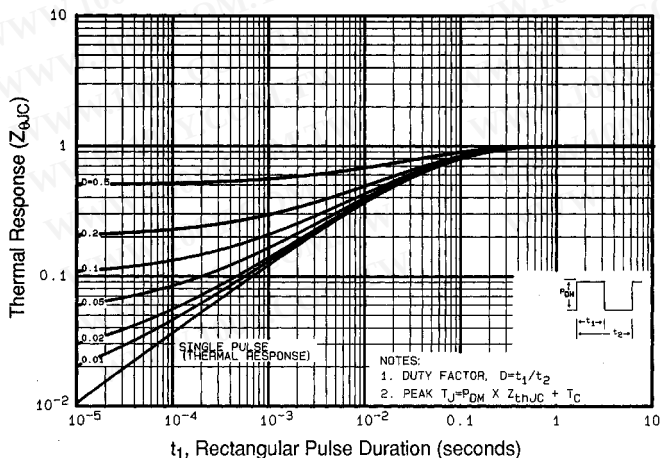

Fig 11. Maximum Effective Transient Thermal Impedance, Junction-to-Case
① Repetitive rating; pulse width limited by max. junction temperature (See Figure 11)
③ $I_{SD} \leq 28A, di/dt \leq 170A/\mu s, V_{DD} \leq V_{(BR)DSS}, T_J \leq 175^\circ\text{C}$ ② $V_{DD}=25V$, starting $T_J=25^\circ\text{C}$, $L=191\mu H$